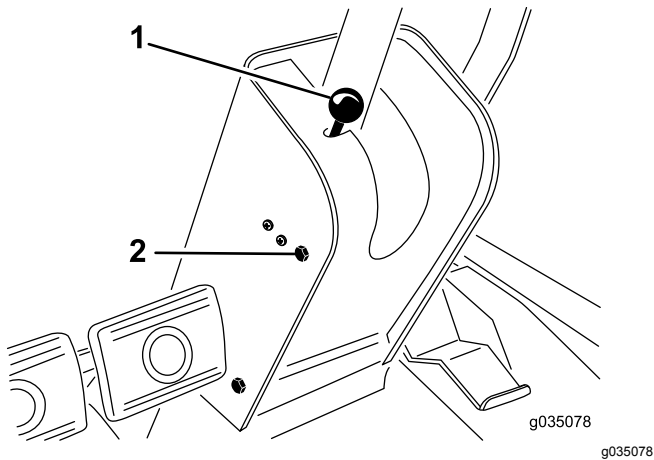

Figure 26
- 1. Remove the knob from the parking brake and the screws from the steering-column cover (Figure 26).